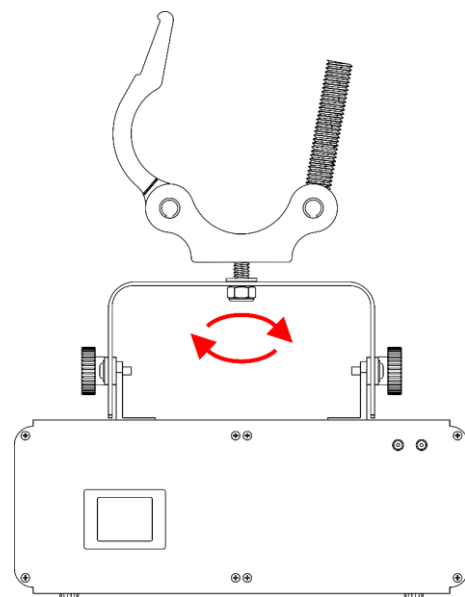

Fig. 06
- Fixed installation: Put the **hex nut (07)** on the **hex bolt (08)**. Turn the **hex nut (07)** clockwise, to tighten the load (Fig. 06).